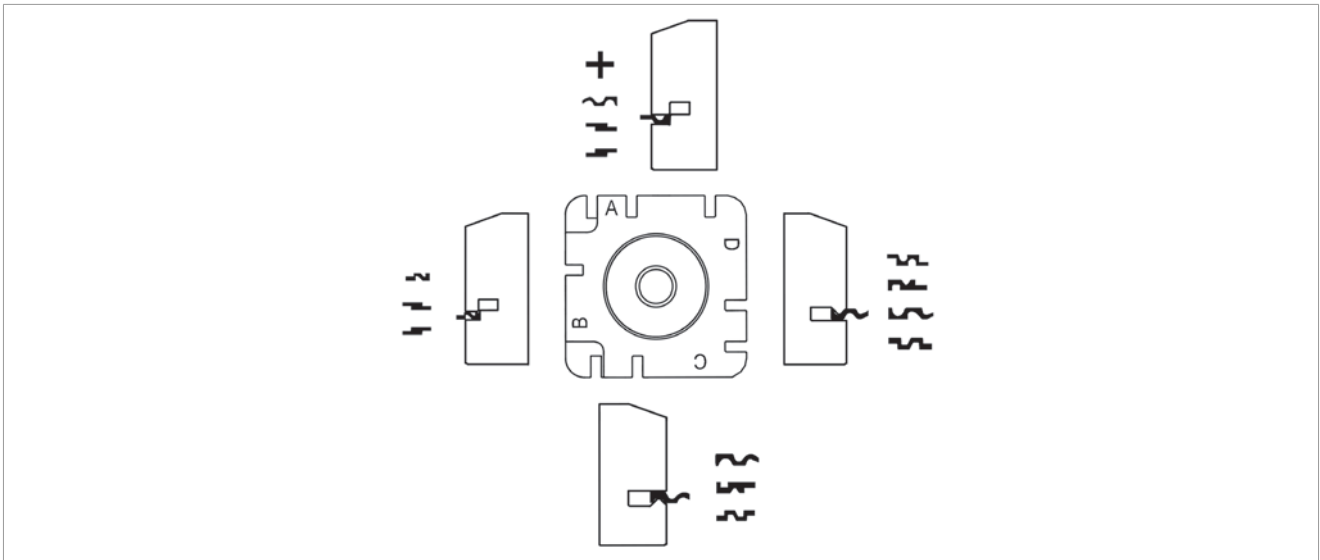

Fig. 22
- **Side A** of the clamp: for keys to be fitted on their backs, keys with double cuts without groove and cruciform keys (Fig. 22);
- **Side B** of the clamp: for keys placed on their backs and having cuts with a depth of less than 3,9 mm (Fig. 22);
- **Side C and D** of the clamp: for keys to be cut on both sides and locked on the groove (Fig. 22).